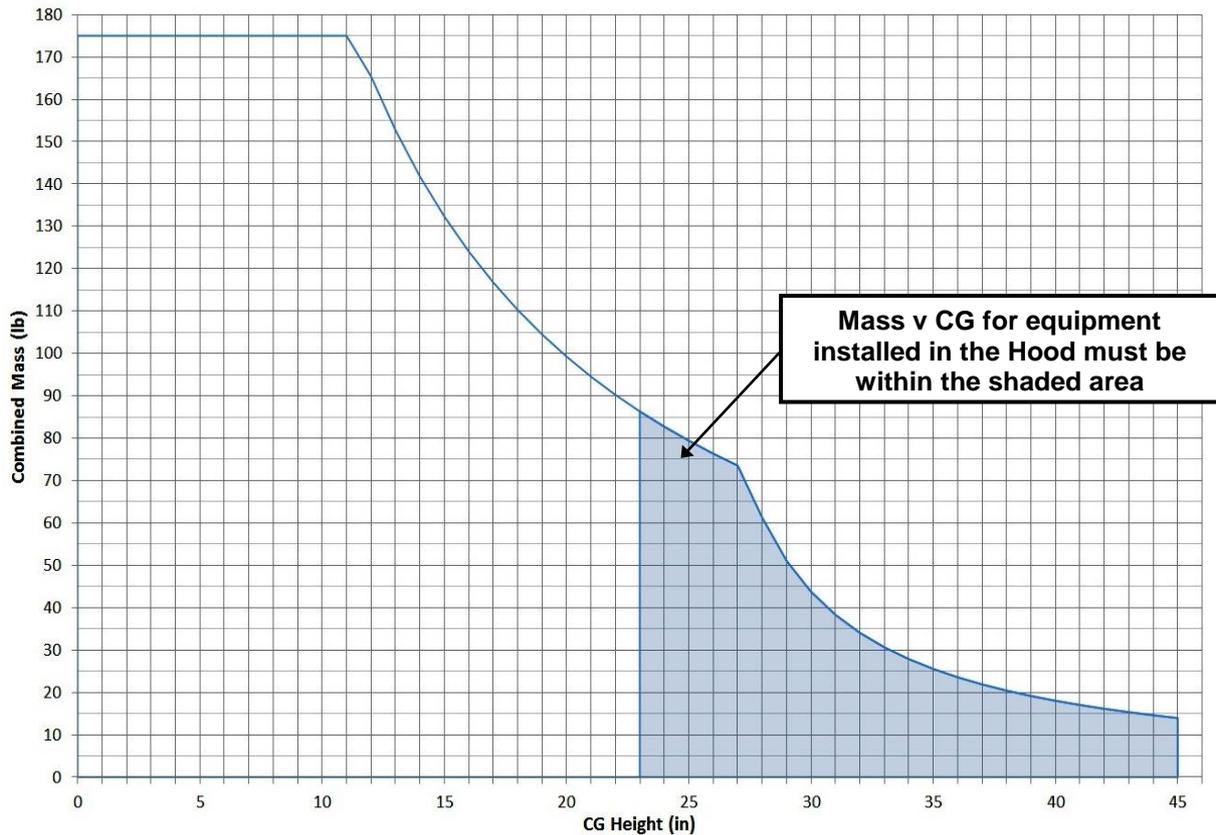

Figure 2: Workstation Mass CG Position vs Height – cont.
4. Max total weight (Hood) Calculate the centre of gravity (CG) position of the equipment installed in the Workstation hood with respect to height from the fuselage floor. Refer to the shaded area of Figure 2 for acceptable combined mass vs CG height combinations.
Maximum total weight of the role equipment allowed on the workstation is dependent upon the position of the equipment's overall centre of gravity (CG) position with respect to height from the fuselage floor. Refer to Figure 2 for Mass CG position vs height combination. Any equipment installation with an overall mass CG position and height combination below the curve is acceptable.